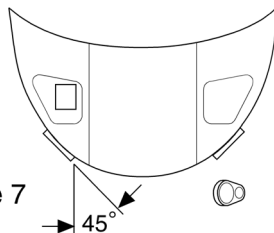

Figure 7
8. Forward radar warning receiver (RWR) mounts are fitted on each corner of the extreme nose at 45° angles as shown in Figure 7. File a small flat on the nose where indicated, remove the RWRs (part 9) from their resin base, glue in place with large end forward and fill any seams.